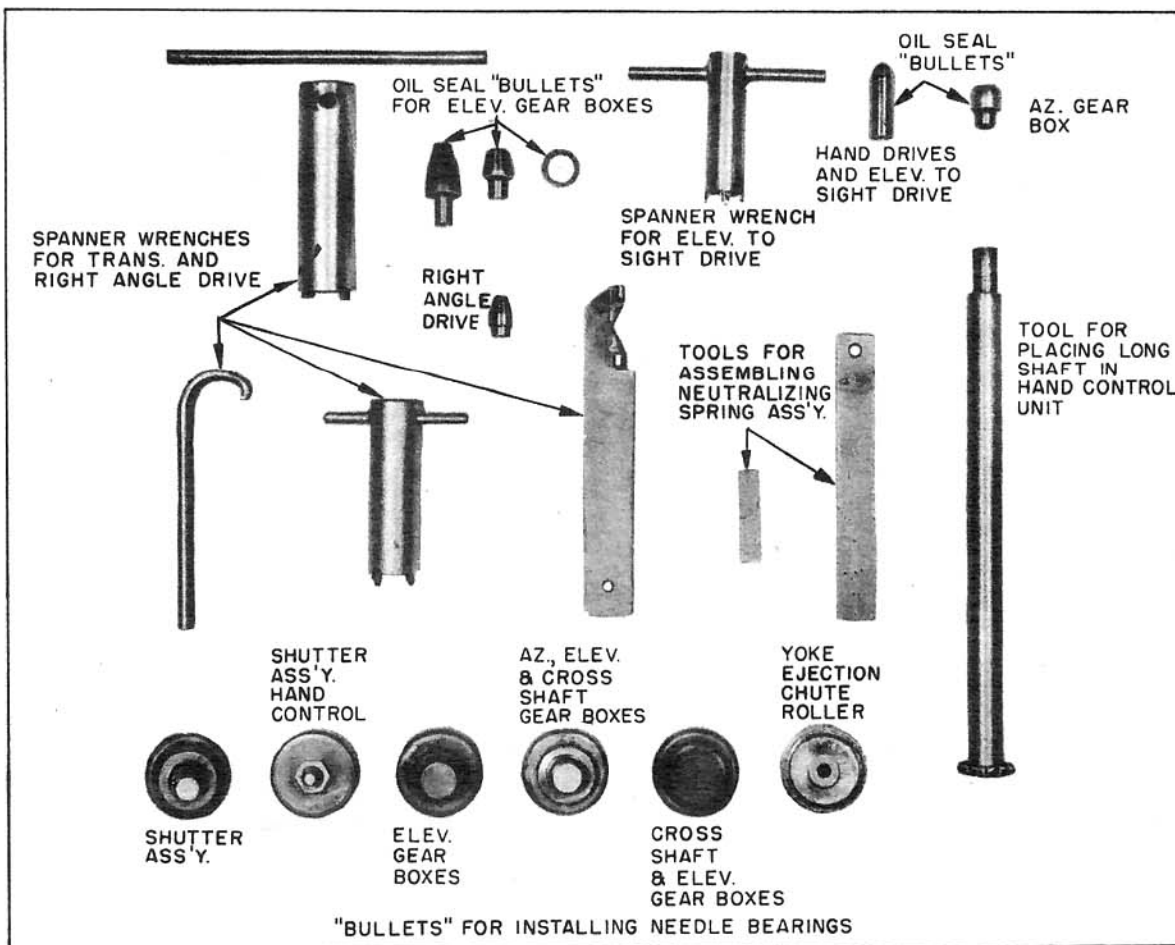

FIGURE 6
(2) Other Hand Tools. - (a) Figure 6 illustrates a group of special tools which may be easily made up by the overhaul personnel and will be useful in overhauling some of the individual units.
(3) Special Tools for Double Power Unit. - (a) In addition to the hand tools listed